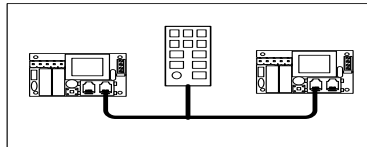

Figure 5
- 3.2.2 **CS-BUS INSERTION METHOD.** This is an alternative technique that must be used for CS-Bus User Control Devices that only have one set of pigtails or one or two RJ-25 connector(s) installed on the device and which needs by necessity or convenience to be connected to a specific IMC-100s Controller positioned closer to the “beginning” of the CS-Bus rather than the “end” of the CS-Bus. (See Figure 5 below.)